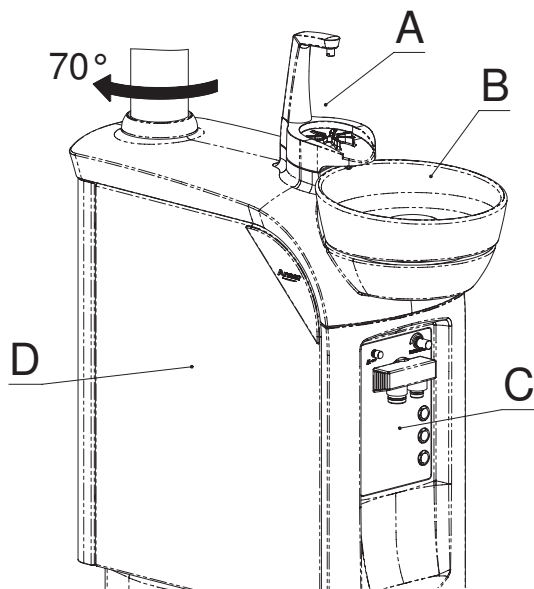

Fig. 9
The water unit has a rotation of **70°** approx. towards the arm support, facilitating the ergonomics of daily use. The upper part holds the cup holder (A) and spittoon (B), made of porcelain to offer high standards of hygiene (fig. 9).
Front panel (C) supports cannula filter, (D) is a lateral door towards Water Unit (fig. 9).